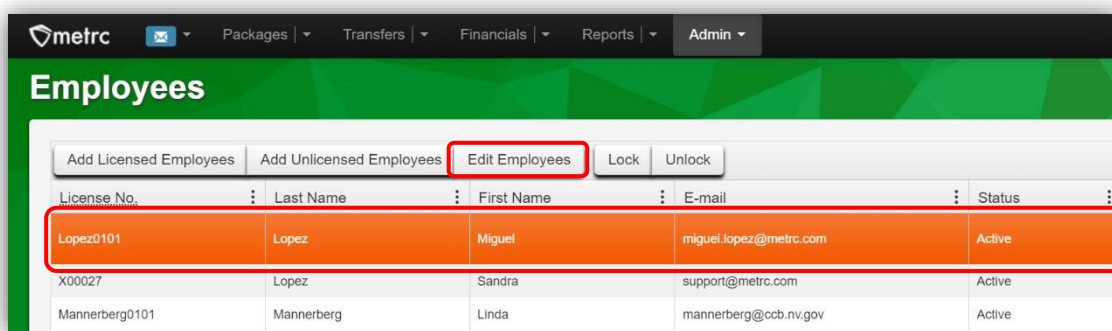

Figure 2: Edit Employees button in the Employees Grid
- Once on the Employees grid, highlight the Employee permission added. And select the Edit Employees button – **see Figure 2.**